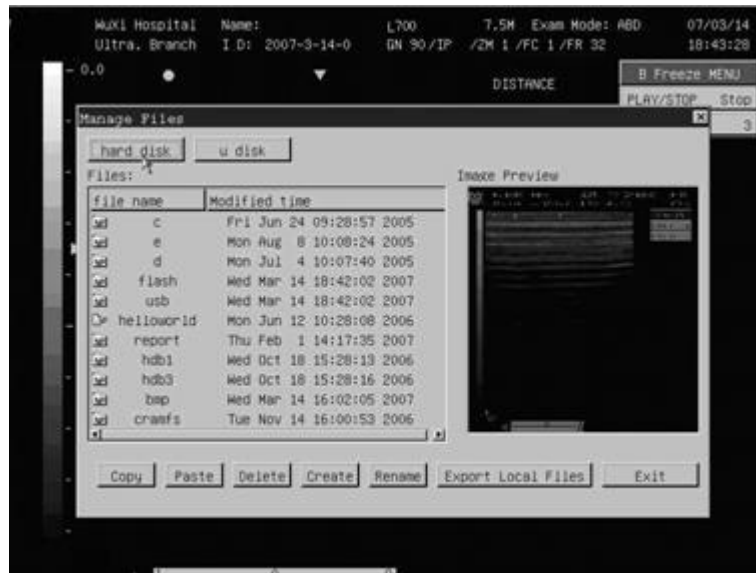

Fig. 12-9 Dialog box- Manage Files
5. A dialog box- “Manage Files” appears as Fig 12-9.